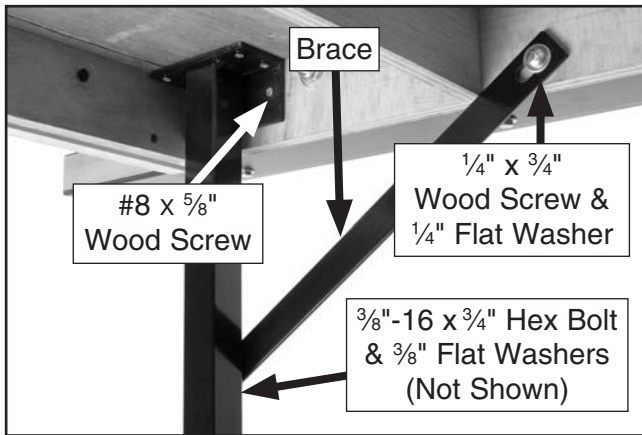

Figure 29. Leg and brace mounted.
3. Use (12) #8 x $\frac{5}{8}$ " wood screws to fasten legs to underside corners of extension table, as shown in **Figure 29**.
4. Use (2) $\frac{3}{8}$ "-16 x $\frac{3}{4}$ " hex bolts and $\frac{3}{8}$ " flat washers to loosely attach braces to legs (see **Figure 29**). These will be adjusted and fully tightened later.
5. Use (2) $\frac{1}{4}$ " x $\frac{3}{4}$ " wood screws and $\frac{1}{4}$ " flat washers to attach braces to extension table (see **Figure 29**).